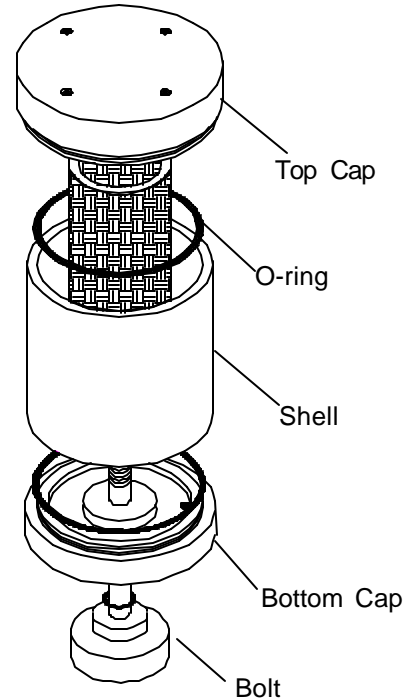

Figure 1
1. Loosen bolt on bottom of filter housing (Refer to Figure 1).